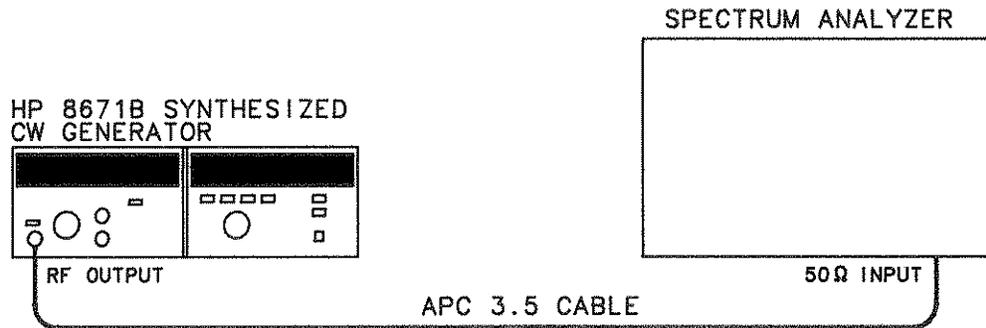

Figure 4-10. Non-Harmonically Related Spurious Signals Test Setup
1. Connect the CW Generator's RF OUTPUT to the input of the spectrum analyzer as shown in Figure 4-10.